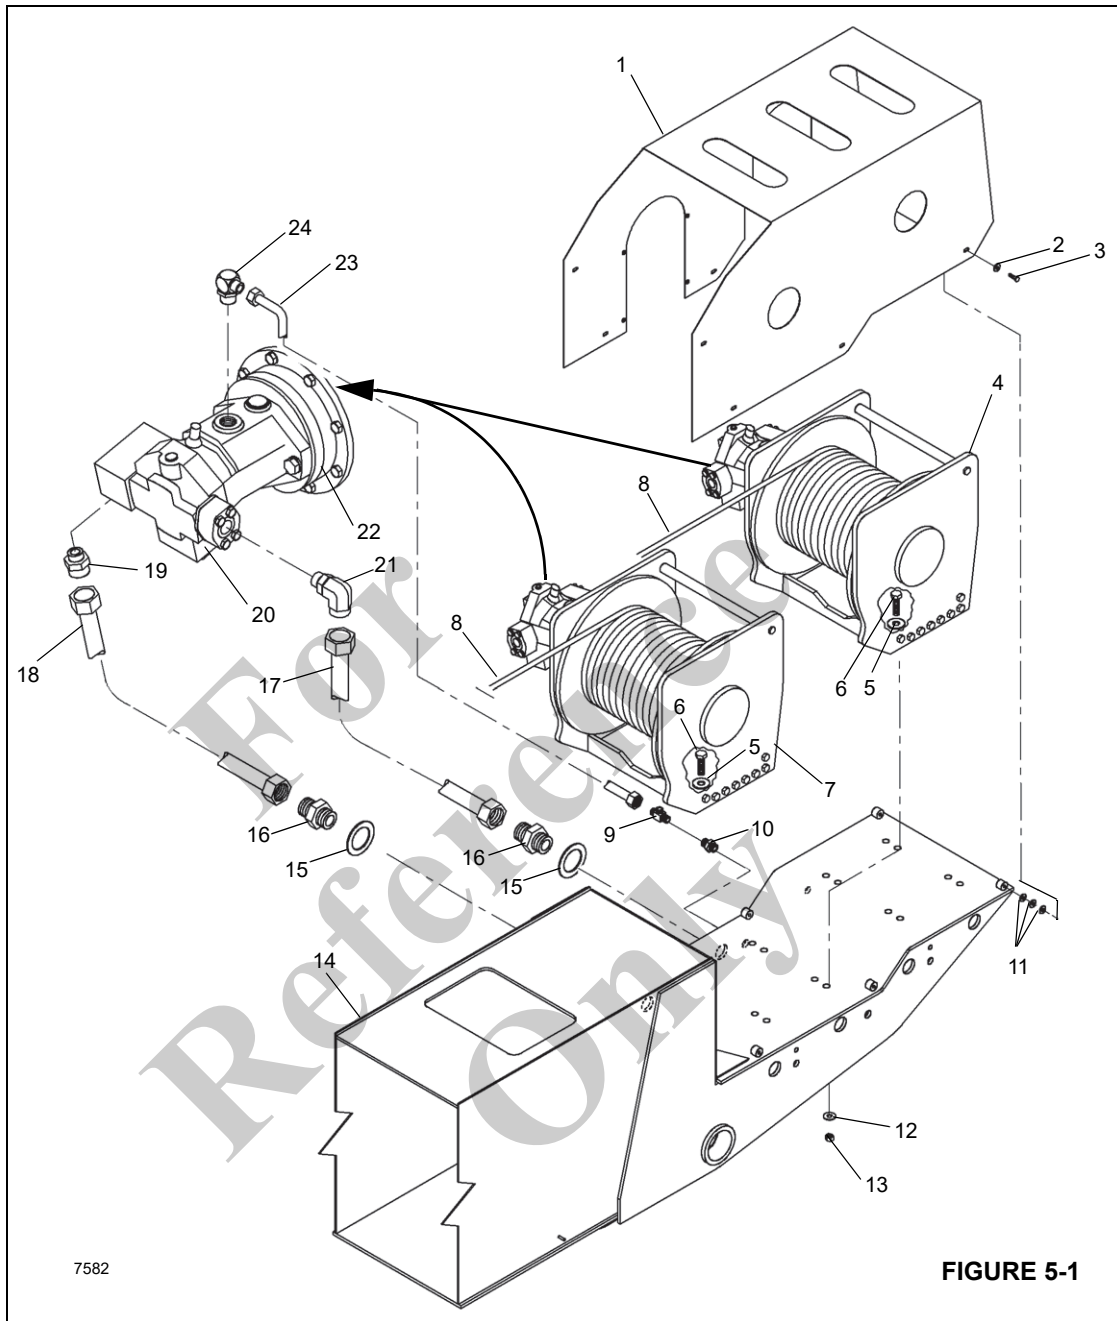

Figure 5-1 Item Numbers
Figure 5-1 shows both the main and auxiliary hoist, hoist cover and hydraulic motor; some NBT40 models are configured with only a main hoist and some models with both the main and auxiliary hoists.
1. Remove the hoist cover (1, Figure 5-1) and attaching hardware 1,2, 11.
2. Remove the cable (8, Figure 5-1) from the hoist drum.
3. Tag and disconnect the hoist hydraulic lines (17, 18 & 23, Figure 5-1). Cap and plug all hydraulic openings.
4. Attach a lifting device to hoist (4, 7 Figure 5-1).
5. Remove the hoist mounting bolts, washers and nuts (5, 6, 12, 13 Figure 5-1) from the hoist.
6. Remove the hoist (4,7 Figure 5-1) from the crane with the lifting device.
Inspect the hoist hydraulic hoses (17, 18 & 23, Figure 5-1) for cracks or damage that may cause leaks. Replace hoses as needed.
1. Attach a lifting device to the hoist (4, 7 Figure 5-1).
3. Install mounting bolts, washers (5, 6, 12, 13 Figure 5-1).
5. Reinstall the hydraulic hoses (17, 18 & 23, Figure 5-1) per removal tags.